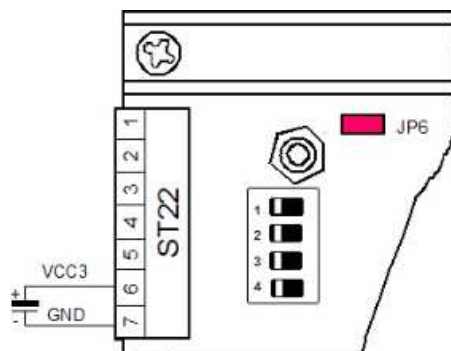

Figure 2-7. Battery Backup for Memory
- Connect a battery (with VCC3 nominally 3.0 V) between pins 6 (+) and 7 (–) of ST22 as shown in Figure 2-7, instead of a bridge between VCC2 and VCC3. Tolerances for the battery are given in Section 3.2.1.1.